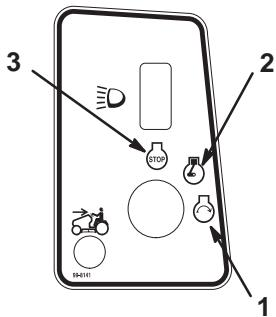

Figure 10
5. Turn the ignition key clockwise and hold it in the Start position (Fig. 10). When the engine starts, release the key.
2. Turn the ignition key to Off and remove the key (Fig. 10).